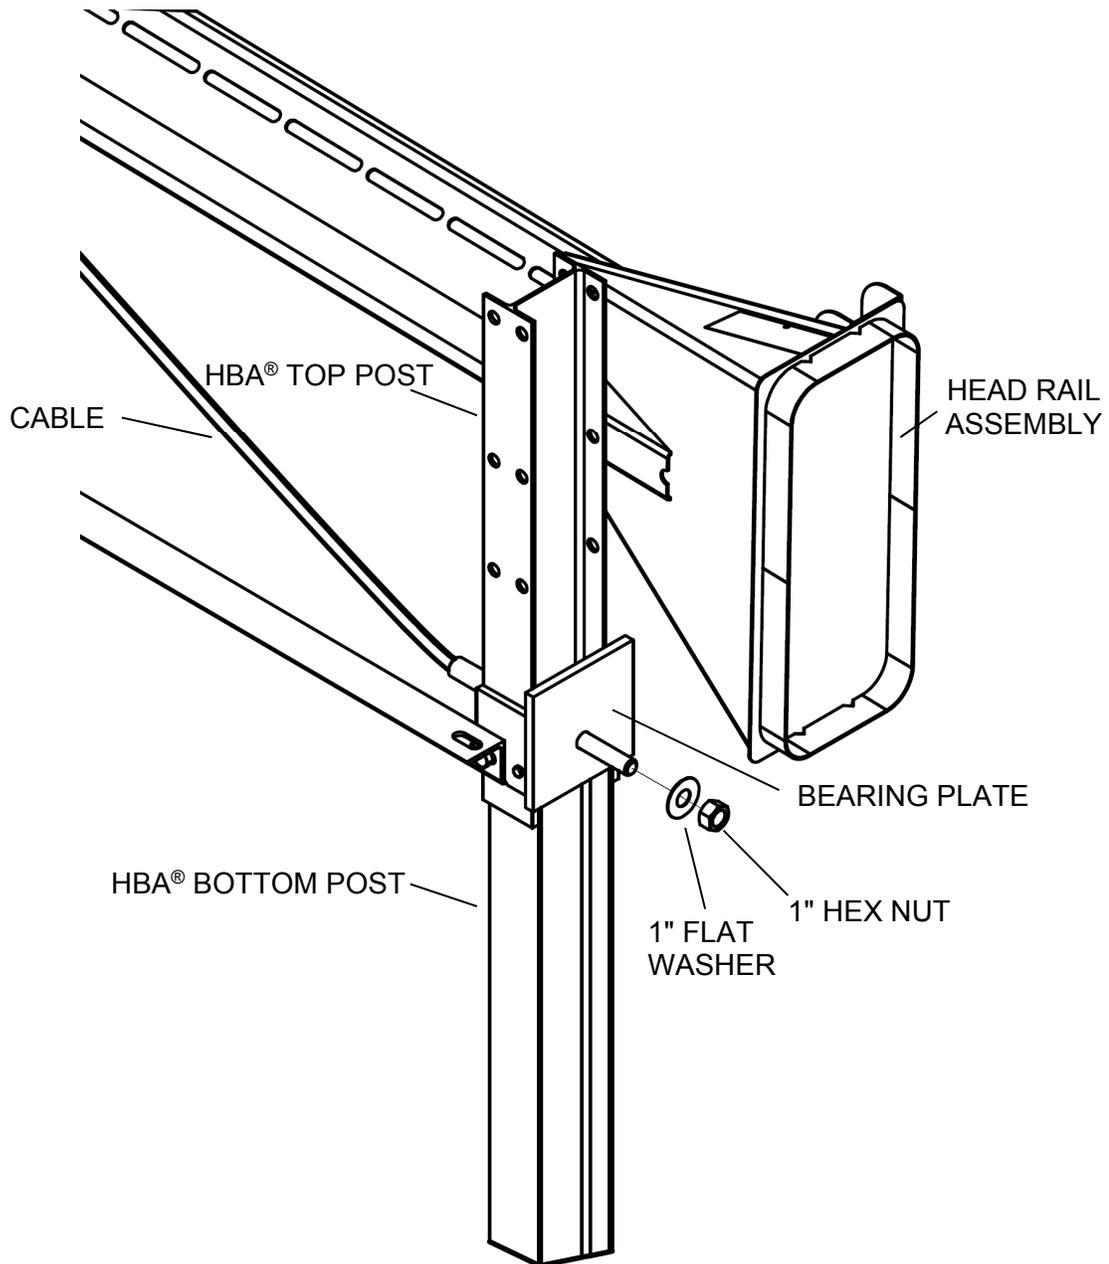

Figure 18 - Cable Attachment
- 7.1 Feed one end of the Cable between the HBA® Top Post and HBA® Bottom Post and through the Bearing Plate. **Note: The tabs on the Bearing Plate rest on top of the HBA® Top Post plates (ears).** Secure the Cable using (1) 1" flat washer and (1) 1" hex nut. Thread the nut approximately 3"- 4" onto the Cable end (Figure 18).